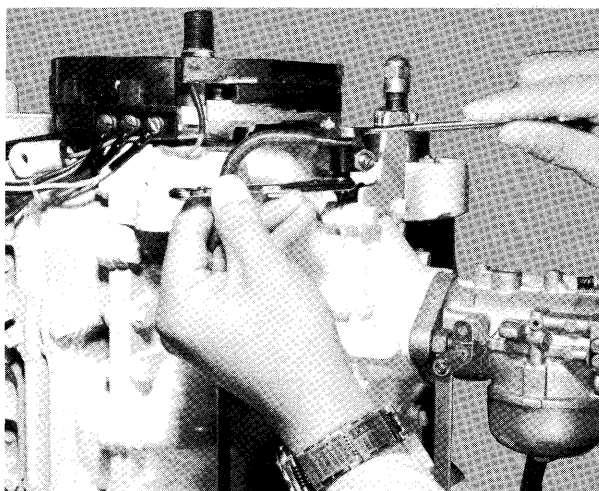

Figure 2B - Disconnecting Towershaft from Control Rod End
- B. Remove screw, bowed washer and stop nut securing towershaft to towershaft control rod end as shown in figure 2B.